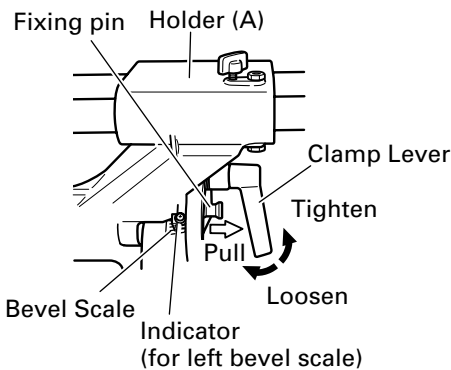

Fig. 30
- (1) Loosen the clamp lever and bevel the saw blade to the left or to the right. When tilting the motor head to the right pull the fixing pin towards the rear. The clamp lever adopts a latch system. When contacting the work bench and the main body, pull the clamp lever in the direction of the arrow mark as illustrated in Fig. 30, and change the direction of the clamp lever.
- (2) Adjust the bevel angle to the desired setting while watching the bevel angle scale and indicator, then secure the clamp lever.
(3) Follow the procedures indicated in paragraphs 4,5 and 6 above. For maximum dimensions for bevel cutting, refer to "SPECIFICATIONS" table on page 6.